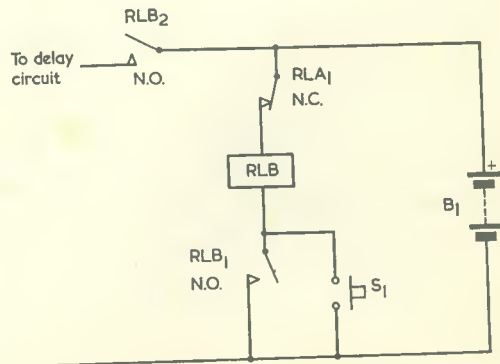

Fig. 5. By adding a second relay, the unit can switch itself off on completion of the timing period
In both of the above cases, the time delay unit continues to consume power from its batteries until the Start switch is re-opened, and this may be undesirable in some applications. It may, for instance, be required that the circuit automatically disconnects itself from the supply once an operation is complete. This mode of operation can be achieved by using an additional relay, RLB, in the circuit shown in Fig. 5.
Here, the original Start switch is replaced by a push-button type. When S₁ of Fig. 5 is closed the supply is connected to RLB via normally closed contacts RLA₁. Relay RLB operates, closing contacts RLB1 so that the relay stays on even when S₁ is released, and closing contacts RLB2 to complete the supply to the time delay unit. After the pre-determined delay period, RLA will operate and
contacts RLA1 will open, thereby breaking the supply to RLB so that RLB will de-energise. Contacts RLB2 will then open, breaking the supply to the time delay unit, while contacts RLB1 also open, ensuring that RLB will not switch on again automatically when contacts RLA1 close as the circuit re-sets itself. By using a third set of contacts (not shown) on relay RLB to control the external circuit, the arrangement of Fig. 5 offers the same facility as that of Fig. 4 (b).
(1). Porch light switching. Here, the porch light can be switched on manually but made to switch off automatically after a reasonable period, in which time the owner can find his door keys, etc. The light may also be switched on for a preset period during the arrival of guests, etc. The circuit of Fig. 5 should be used here, but ensure that the relay contact set which switches the porch light has insulation suitable for mains voltages.
(2). Car spot-lamp hold-on unit. In this case, the spot-light of a car can be operated in a manner similar to (1) above, enabling the owner to find